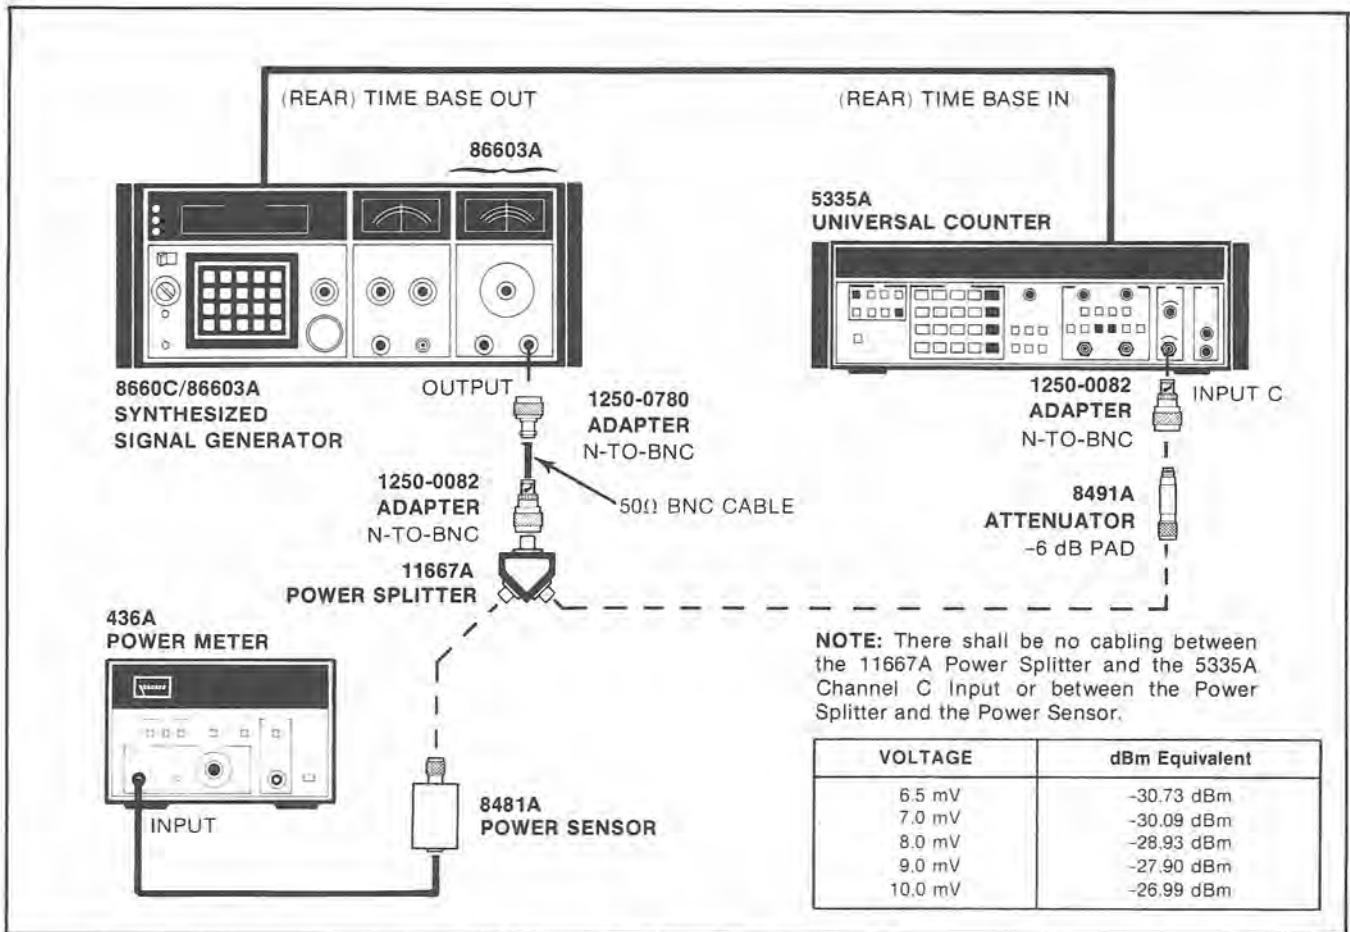

Figure 5-3. Channel C Sensitivity Adjustment Setup
- f. Connect the instrument as shown in *Figure 5-3*.